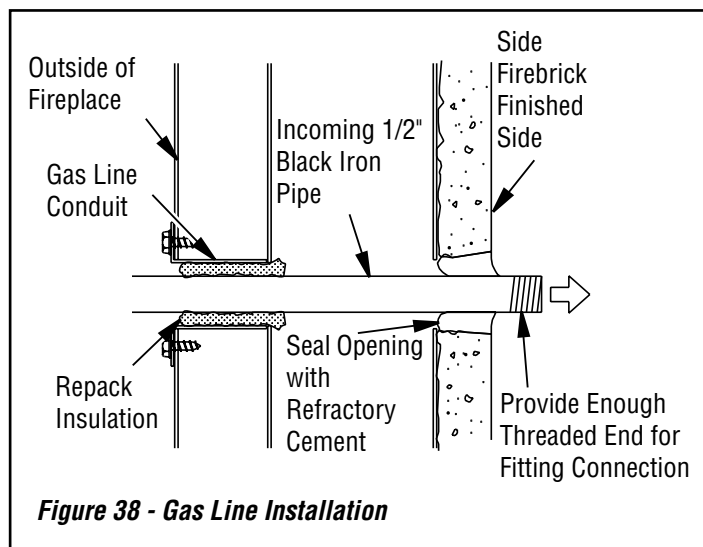

Figure 38 - Gas Line Installation
3. Run a 1/2" black iron gas line into fireplace through the rear at gas line conduit sleeve (if using a raised platform, add height). Provide sufficient gas line into fireplace chamber for fitting connection (see **Figure 38**).